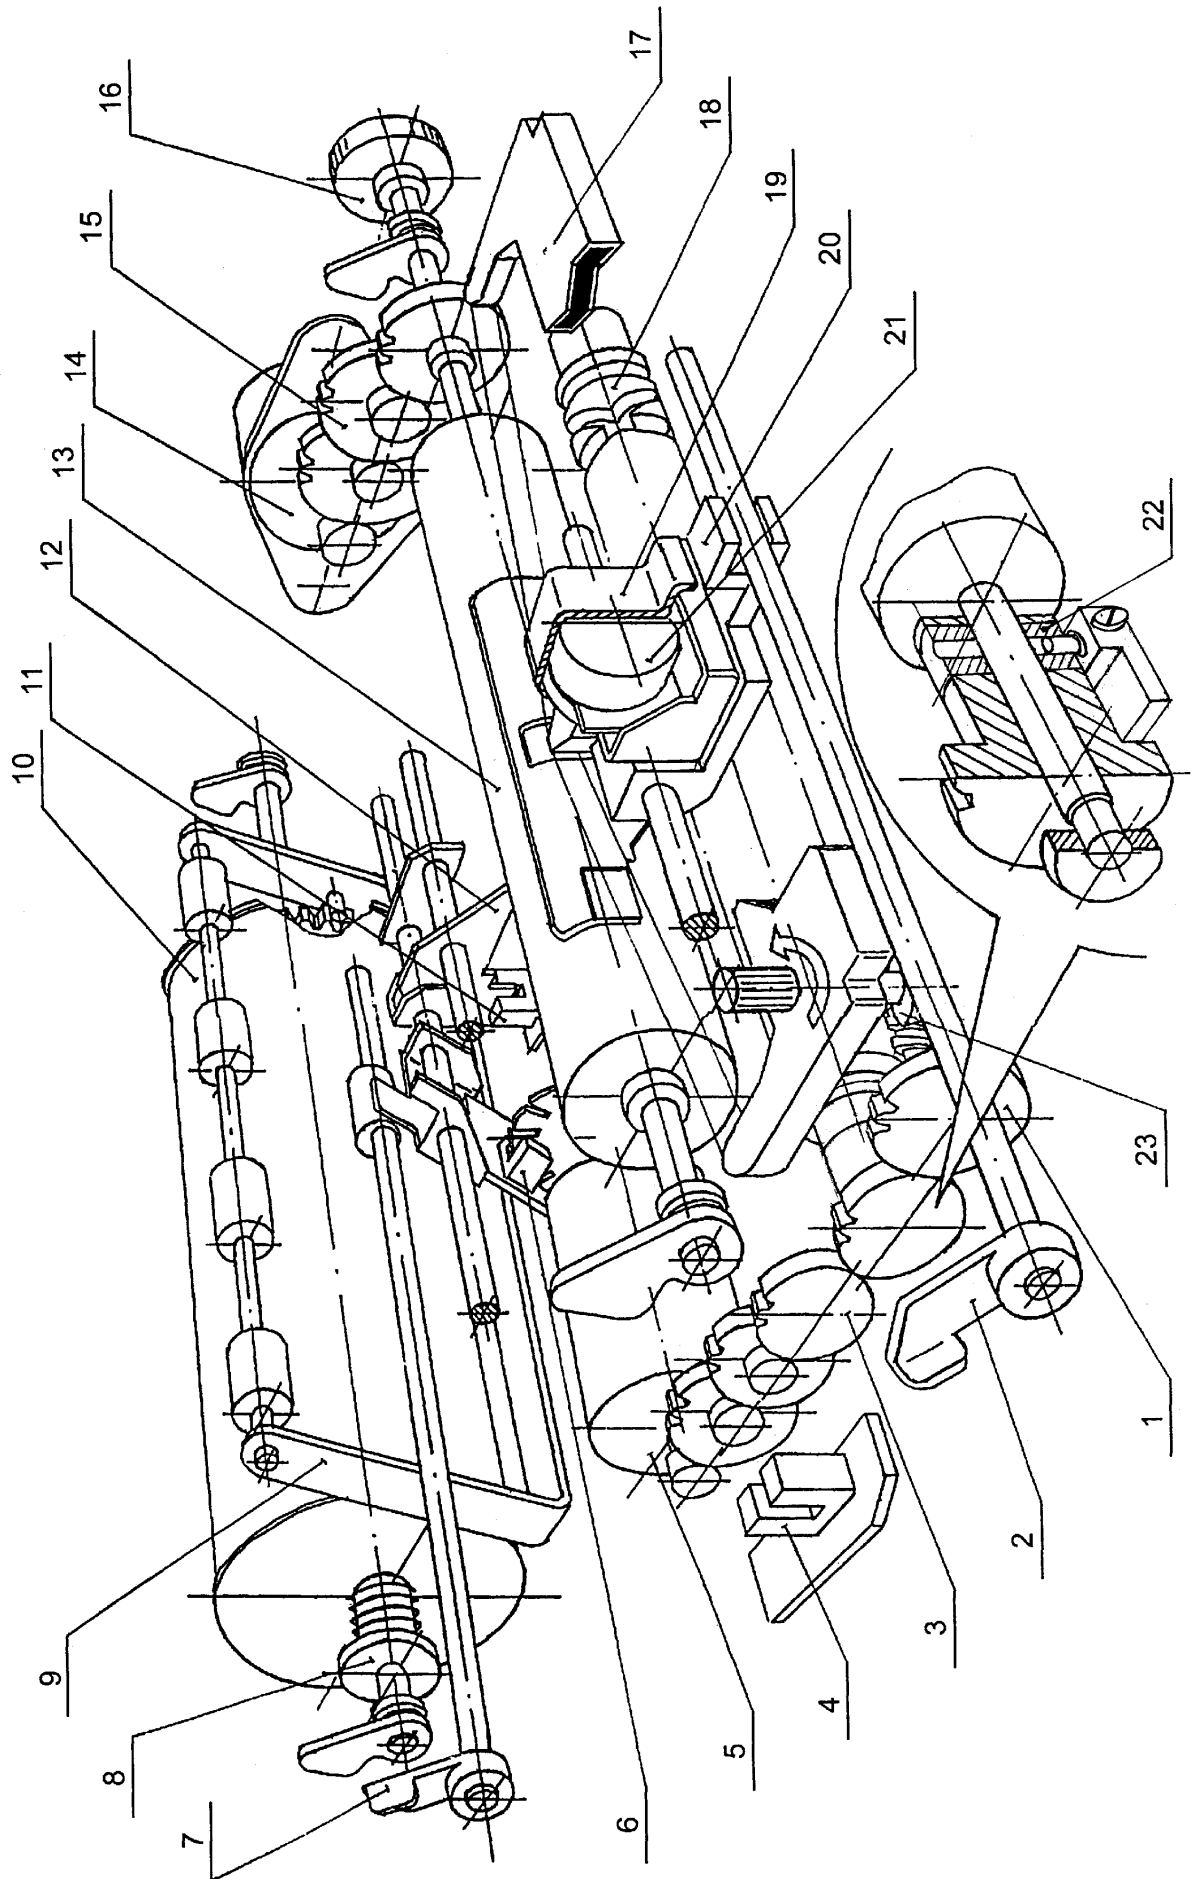

Figure 5 - УД-М. Printing unit kinematic scheme
- 1) rotating gear 1 with your finger, Figure 5, drive printing head carriage to the far left position to prevent carriage leading shaft deformation while removing shield and PH;
- 2) unscrew two PH fastening screws, remove PH with flat cable still connected and place it alongside screw shaft 18, Figure 5.
- blow the optron sensors 4, 6 and 11, Figure 5;
- lubricate units and parts according to Figure 5.